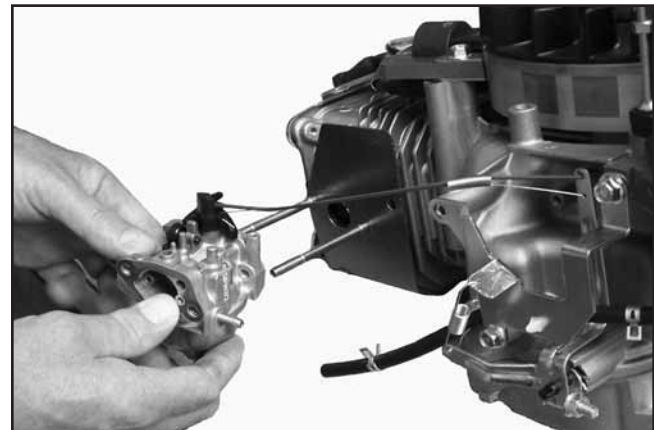

Figure 10-45. Installing Carburetor (Primer Model).
2. Slide the carburetor onto the mounting studs. See Figure 10-45. Install the air cleaner gasket onto the studs.
3. Slide the carburetor onto the mounting studs. See Figure 10-45.